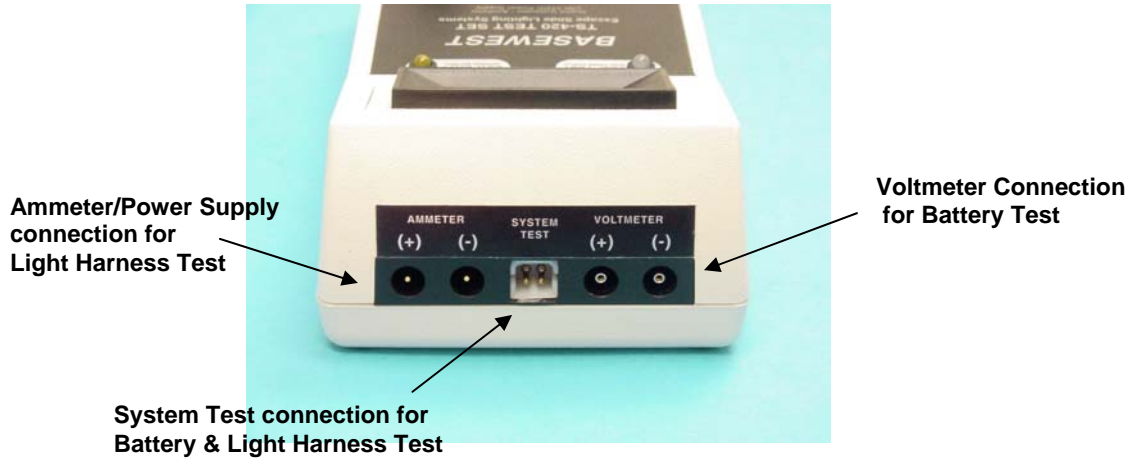

Figure 3. Connector Block Arrangement
- 3.2 Connect the 4-contact test lead on the battery pack to the mating receptacle on the connector block of the instrument (See Figure 3). Note that the connector is keyed for proper alignment.
- 3.5 Release the Press-To-Test switch when the voltage is recorded. The test set will return to the OFF condition. **NOTE:** This test can also be accomplished by connecting one set of the battery power leads to the VOLTMETER inputs on the connector block (see Figure 3).